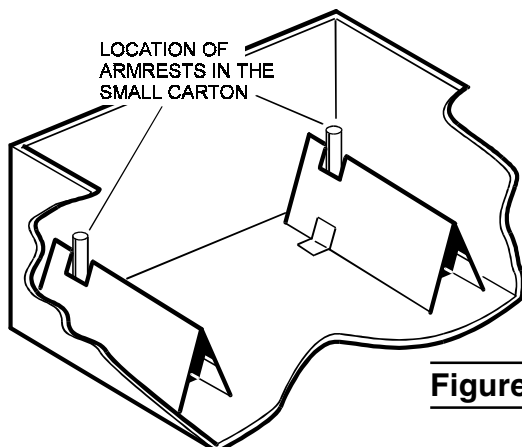

**Figure 12**
1. Unpack the armrests and discard all packing materials. The armrests are secured to the bottom of the small carton (Figure 12).